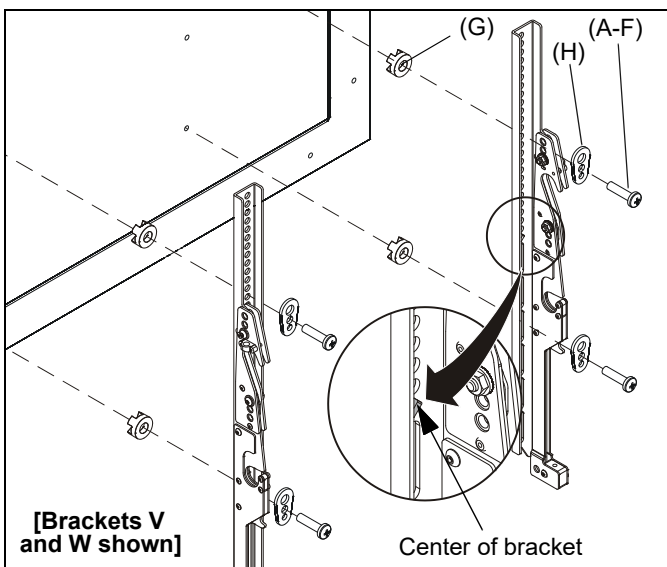

Figure 10
1. Align the center of the bracket (V and W or X and Y) with center of screen. (See Figure 10)
2. Select correct screws, nesting spacers (if necessary) and universal washers from the hardware bag (A-H) and attach brackets to back of screen. (See Figure 10)